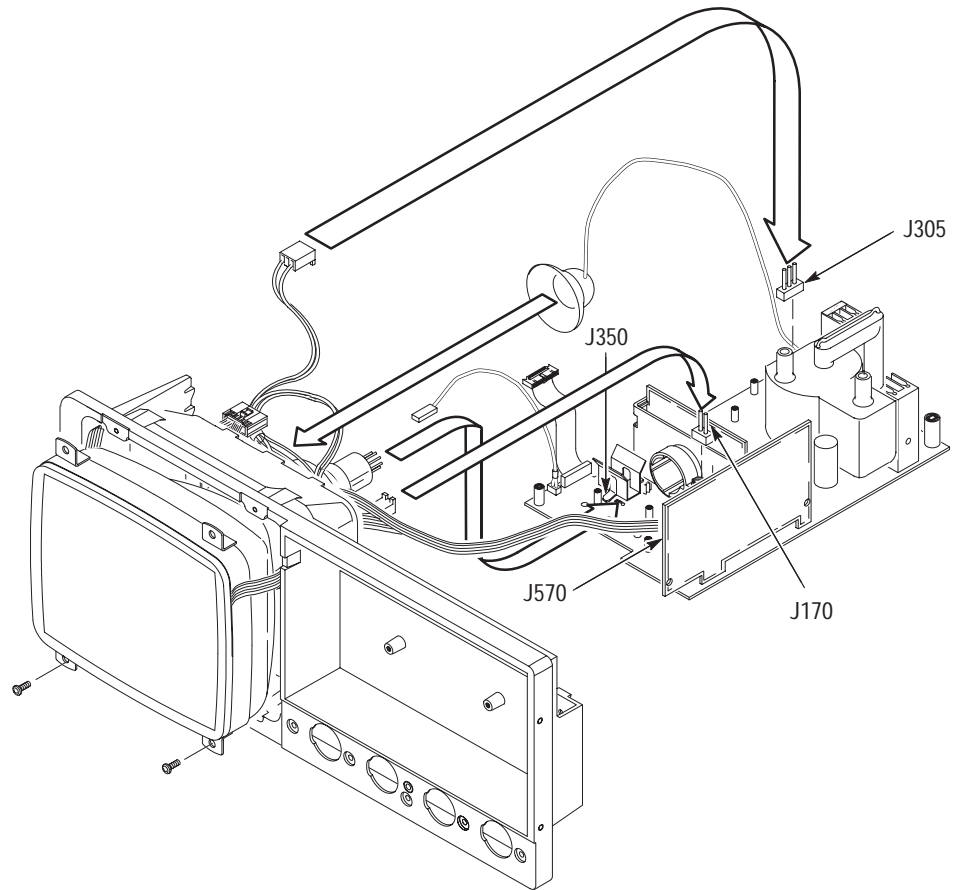

Figure 6–24: Display assembly removal
- a. Working from the rear of the oscilloscope, remove the two screws securing the low-voltage power supply to the rear chassis. See Figure 6–23.
- b. Now, working from the top of the oscilloscope, remove the seven screws, indicated in Figure 6–23, that mount the supply to the main chassis.
- c. Grasp the supply at the points indicated in Figure 6–23 and lift the board up out of the oscilloscope to complete removal.
5. *Remove the display supply board:* Use Figure 6–25 as a guide.
- c. Locate the modules to be removed in the locator diagram *Inner-Chassis Modules*, Figure 6–2, page 6–13.
3. *Remove the front subpanel:* Remove the six screws securing the front subpanel to the main chassis. (See Figure 6–26 for screw locations.) Lift the front subpanel up away from the main chassis to complete the removal.
- a. Align the front subpanel to the main chassis, taking care to ensure that the main chassis slips into its alignment slot on the front subpanel (see magnified view, Figure 6–26.) Then reinstall the six screws removed in step 3.